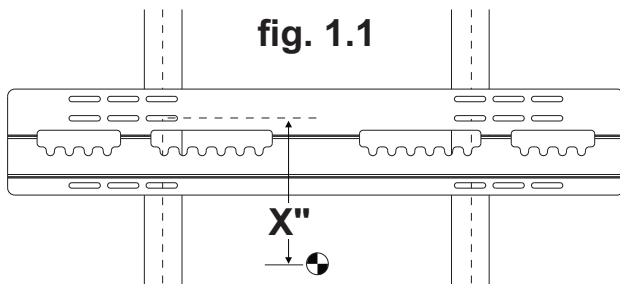
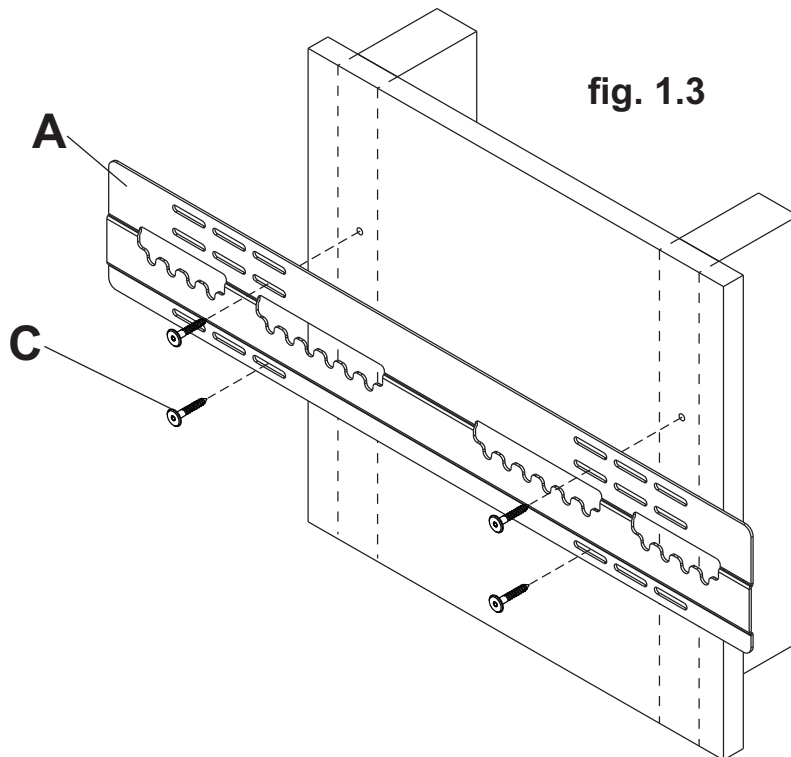

fig. 1.1
fig. 1.3
- 1 Wall plate (A) can be mounted to two studs that are 16", 20", and 24" apart. Use a stud finder to locate the edges of the studs. Use of an edge-to-edge stud finder is highly recommended. Based on their edges, draw a vertical line down each stud's center. Place wall plate on wall as a template. The top mounting slots should be located X" above the desired display center as shown in figure 1.1 and 1.2. Level plate, and mark the center of the four mounting holes. Make sure that the mounting holes are on the stud centerlines. Drill four 5/32" (4mm) dia. holes 2" (51mm) deep. Make sure that the wall plate is level and secure it using four wood screws (C) as shown in figure 1.3.
- 1** Make sure that wall plate (A) is level, use it as a template to mark four mounting holes. The top mounting slots should be located X" above the desired display center as shown in figure 1.1 and 1.2 on page 4. Drill four 5/16" (8mm) dia. holes to a minimum depth of 2.5" (64mm). Insert anchors (D) in holes flush with wall as shown (right). Place wall plate over anchors and secure with four wood screws (C). Level, then tighten all fasteners.